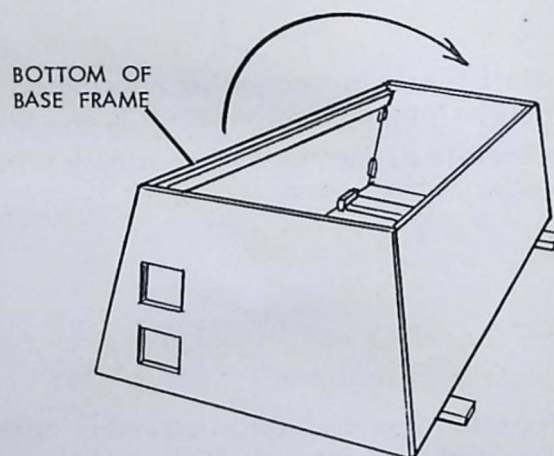

FIGURE 8
11. Turn the base frame assembly upside down. (Figure 8)